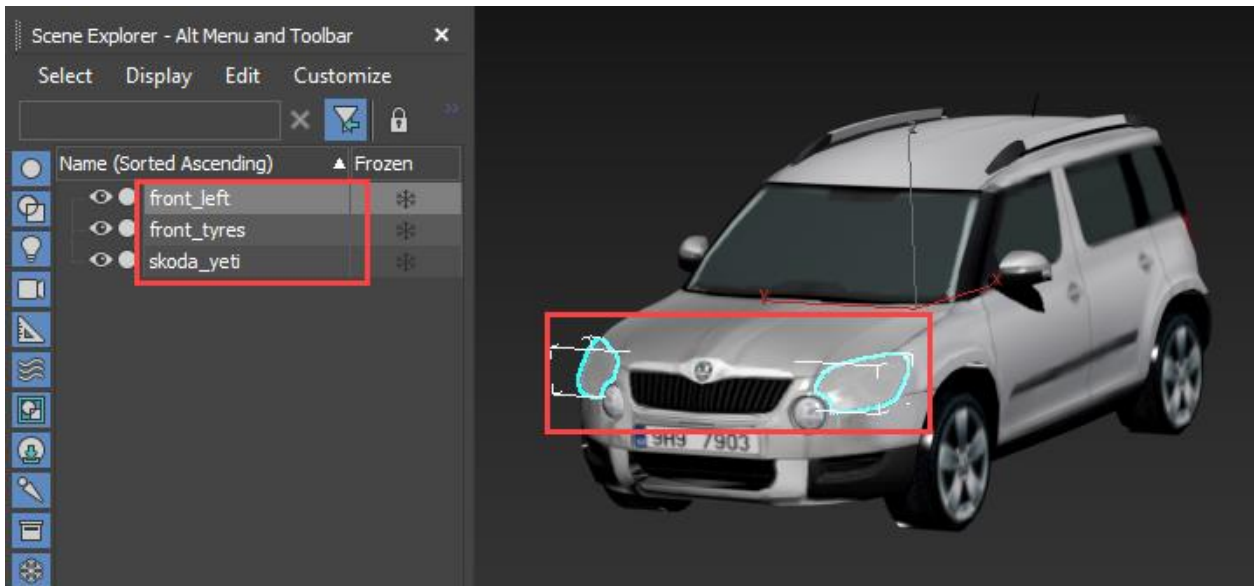

Figure 30.10. United headlights
4. Then click left mouse button on the object you want to attach in the main window or in the **Scene Explorer**. For our case select, for example, **front_right** object. After that you will see only three objects in the Scene Explorer since **front_right** was attached to the **front_left** object and both headlights will be highlighted in the main window, see Figure 30.10.